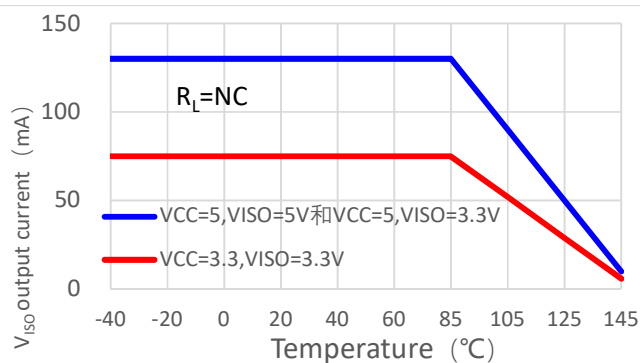
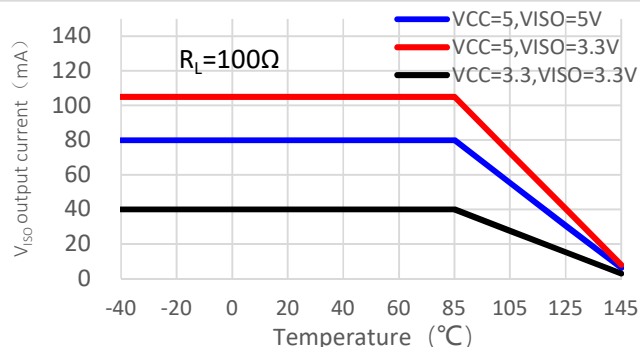

Figure 7-14.
Figure 7-16.
1. DE = V CC , $\overline{RE}$ = 0V, DI = 0V or V CC ; The available output current from V ISO will be reduced when T A > 85°C, see Figure 7-14, Figure 7-16, Figure 7-18, the maximum output current of V ISO vs. temperature.
The maximum output current from VISO is shown as Table 9-6. Note that the IISO value in Table 9-6 is the maximum output current at +25°C with data rate x load capacitance < 0.5Mbps × 2nF. As the increase of temperature, especially when the temperature exceeds +85°C, the maximum load current will be decreased, see more details in Figure 7-14, Figure 7-16, and Figure 7-18.